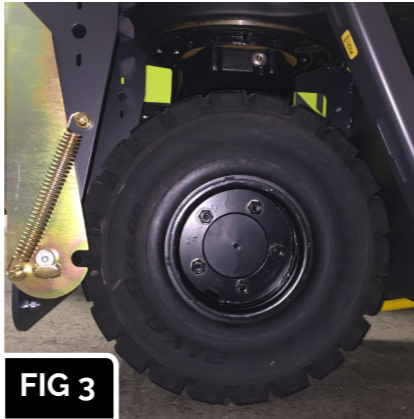

FIG 3
- The tightening torque of the rear drive unit retaining nuts is 135 Nm (fig 3).